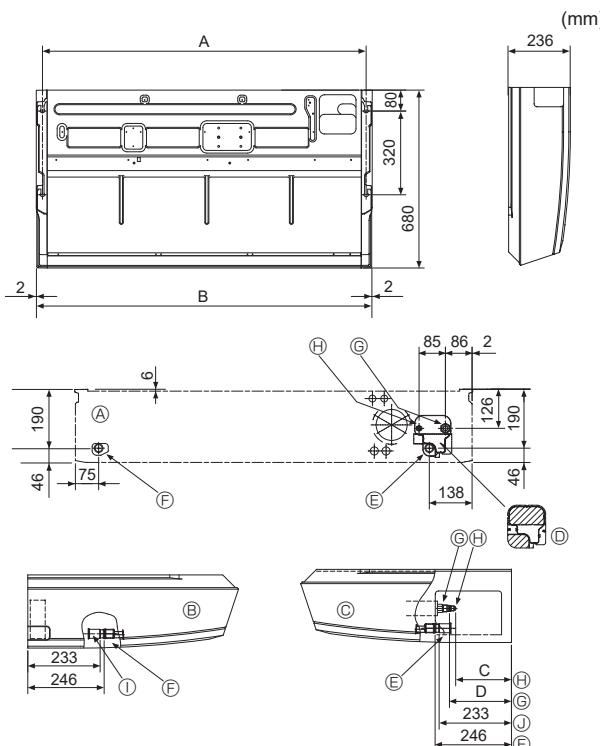

Fig. 3-2
②	Pipe cover	1 pc Large size (For gas tubing)
③	Pipe cover	1 pc Small size (For liquid tubing)
④	Band	4 pcs
⑤	Joint socket	1 pc Marked with "UNIT"
⑥	Socket cover	1 pc
⑦	Drain tubing cover	1 pc
⑧	Wireless remote controller	1 pc
⑨	Remocon holder	1 pc
⑩	Alkaline batteries (size AAA)	2 pcs
⑪	Tapping screw 3.5 x 16	2 pcs
3.2. Preparation for installation (Fig. 3-2)